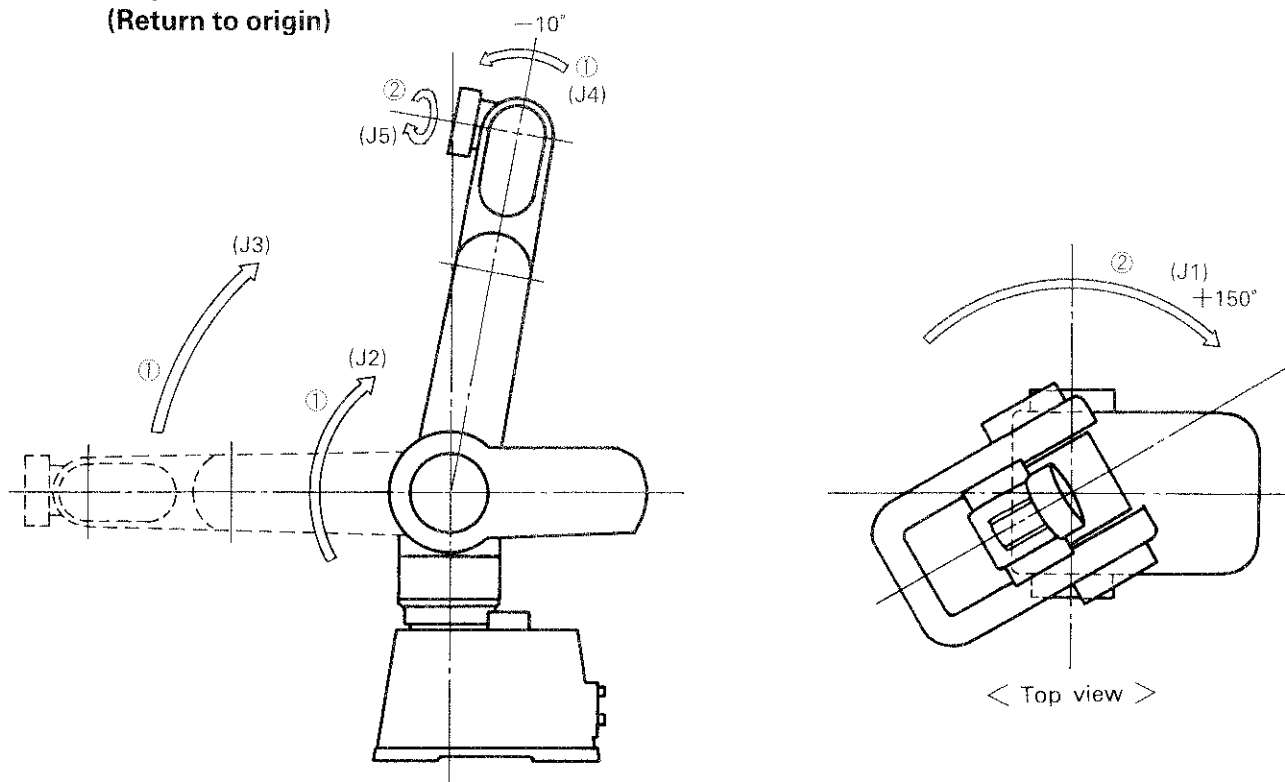

Fig. 1.3.7 Robot Zeroing Operation
- (1) The robot of the Movemaster EX RV-M1 must be returned to origin after power on. (For details, see Section 4.3 Origin Setting, Vol. 2.)
- (2) The arm should be moved as appropriate by jog operation before return to origin so that the robot will not interfere with any peripheral equipment during set origin.
- (3) Return to origin procedure (See Fig. 1.3.7.)
①